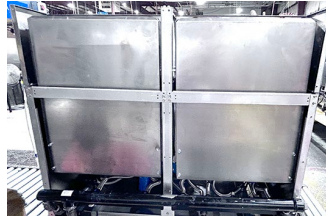

Figure 1
1. Remove the back of the fryer (see Figure 1).